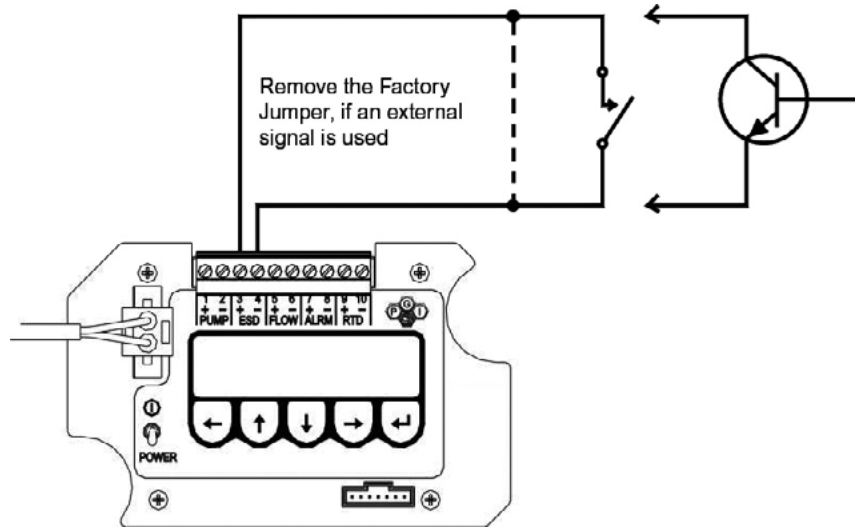

Figure 9: ESD Terminals
B. ESD Terminals 3 and 4 (refer to Figure 9)